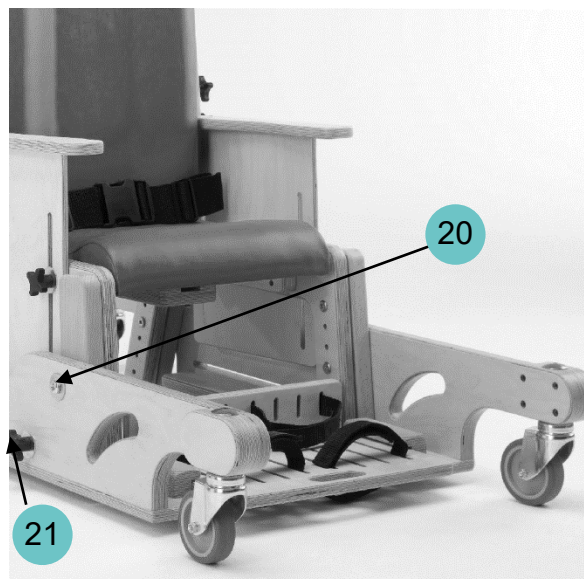

Figure 18
- The minimum raise mobile base is secured to the outriggers of the chair using 4 bolts (Ref. 20 of Figure 18)
- To slide the footrest forward, loosen the handwheels on the side of the base. (Ref. 21 of Figure 18).